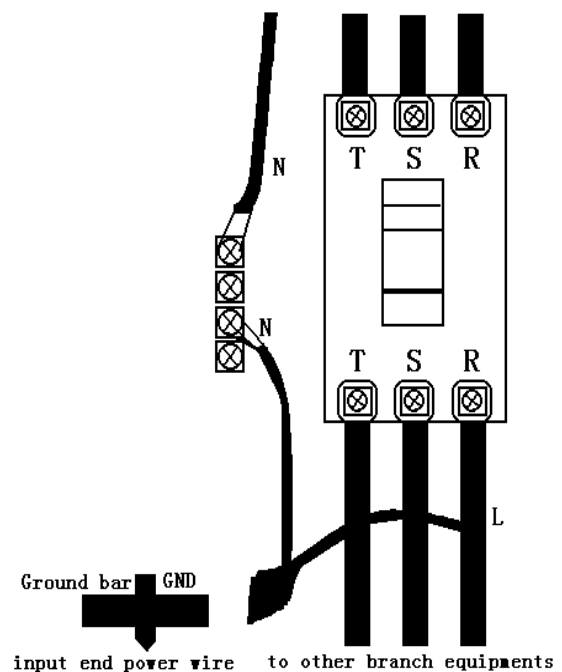

Fig11
- h. When connection to distribution box free from common switch and other equipments, be sure to connection to source, refer to Fig11.